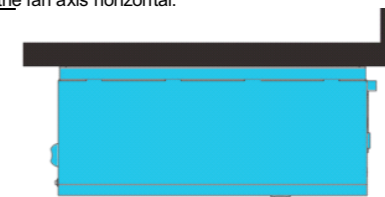

Figure 13
2. Mounting considerations are shown in Figure 10~Figure 13 on page 21.